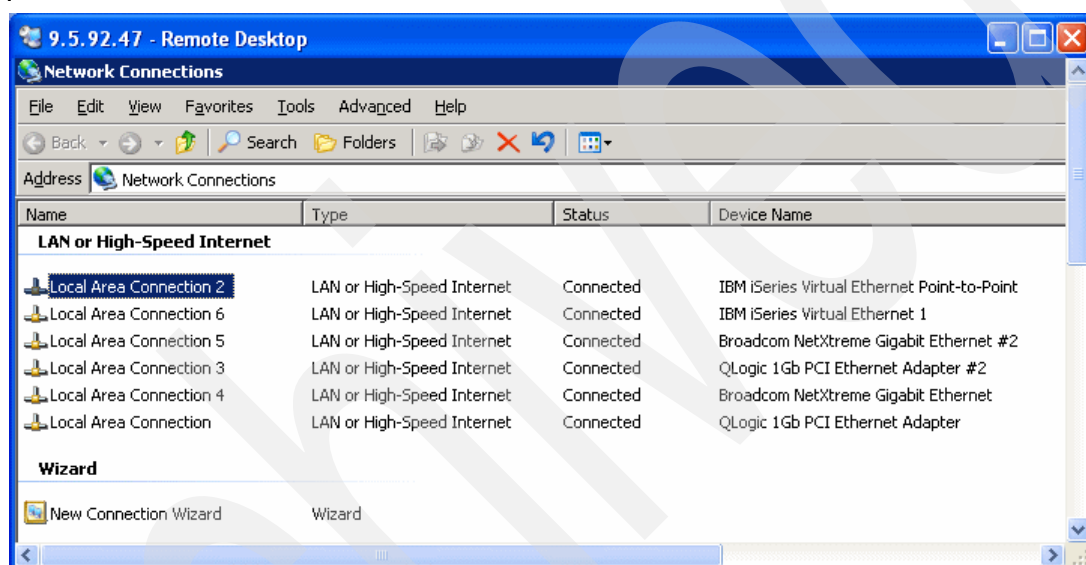

Figure 9-75 Browsing Windows Network Connections (xSeries) - 1
2. Right-click **Network Connections**. Select **Open**. You see a display similar to the one shown in Figure 9-75.
In the example shown in Figure 9-75, you see the following connections: